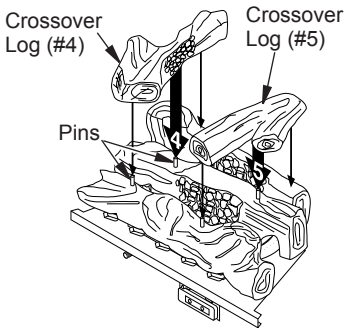

Figure 44 - Installing Crossover Logs (#4 & #5) [CGEFP Logs Shown]
4. Place left crossover log (#4) across logs #1, #2 and #3 fitting holes in bottom of log #4 onto pin on front and middle logs as shown in Figure 44.
5. Place right crossover log (#5) in the same manner on right side of logs (see Figure 44, page 25).